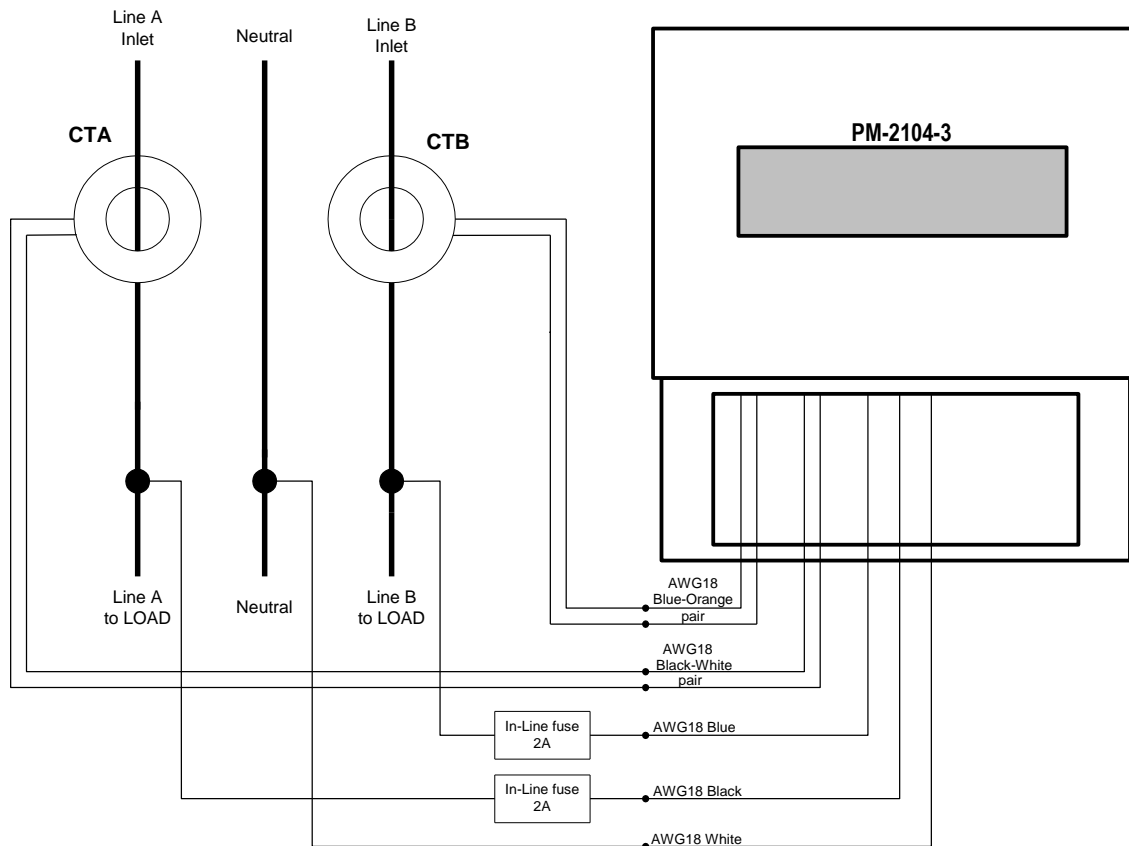

Fig 2. PM-2104-3 Two-phase Connection Diagram.
2. Put on the external current transformers (CTA and CTB on Fig 2) on the power line cables.